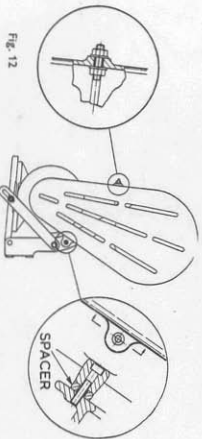

Fig. 12
1 Attach the motor base link (with flanges innermost), and secure the motor base in a horizontal position. Place the motor and lightly tighten the bolts. If the motor is not required for reversing duty, it is recommended that the correct rotation be set before mounting. Rotation should be clockwise when viewed from the pulley end. Instructions for reversing rotation are usually contained in the motor terminal box. Assemble the motor pulley on to the motor shaft. Screw in the countershaft bolt guard stud (10), until tight, and attach the countershaft belt guard. See Fig. 12.